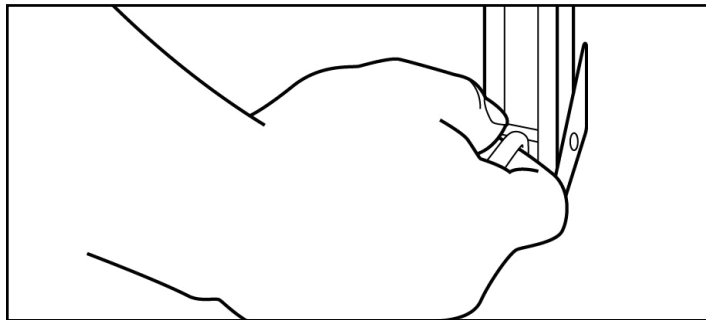

Fig.47
1. Pull up the stakes from the end of the Ground Support assembly (Fig.47).